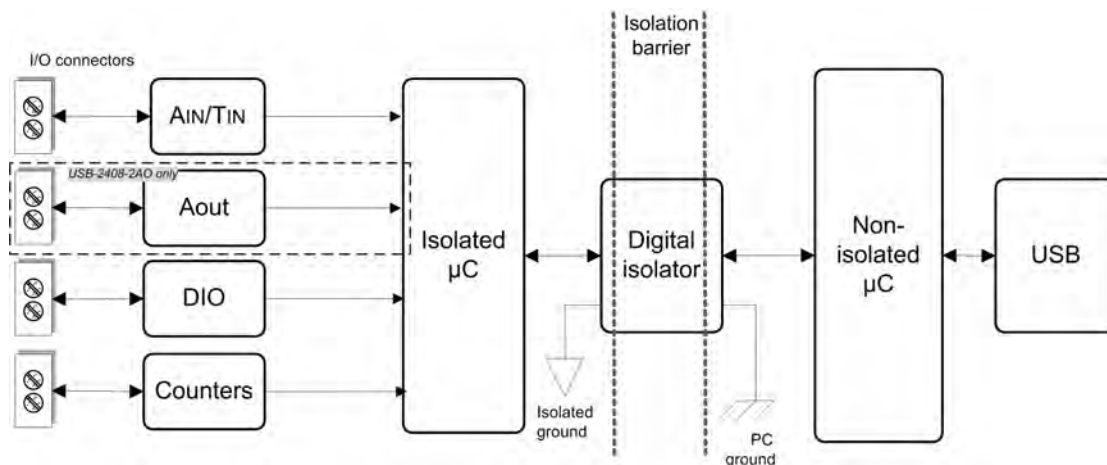

Figure 5. OMB-DAQ-2408 Series input isolation diagram
- All analog measurements are made relative to the isolated ground. See Figure 5 for details.